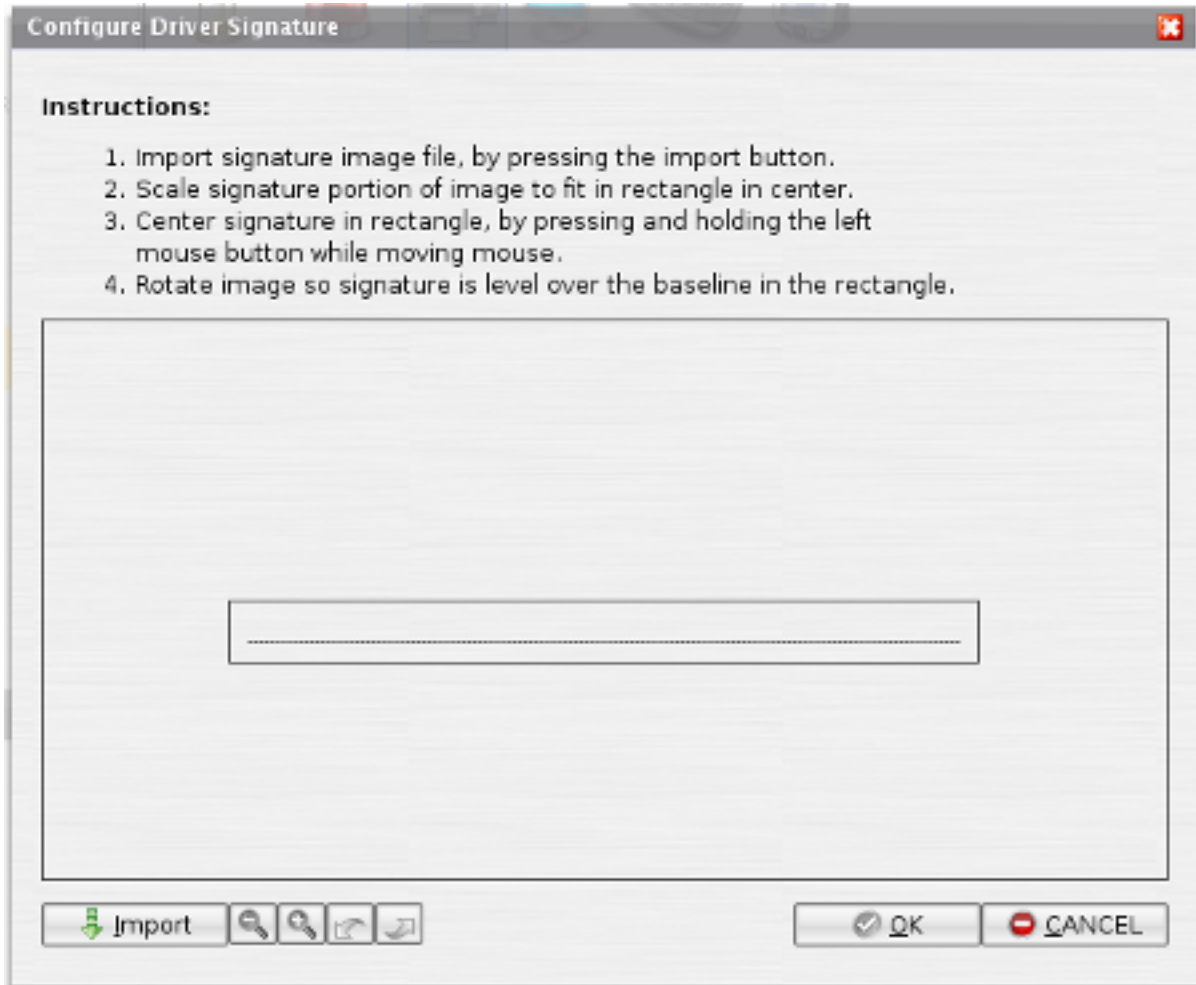

Figure 7.13. Import Signature Dialog
2. In the "Print Signature" section click the Set Signature button and wait for the import driver signature dialog to appear, see Figure 7.13, "Import Signature Dialog".